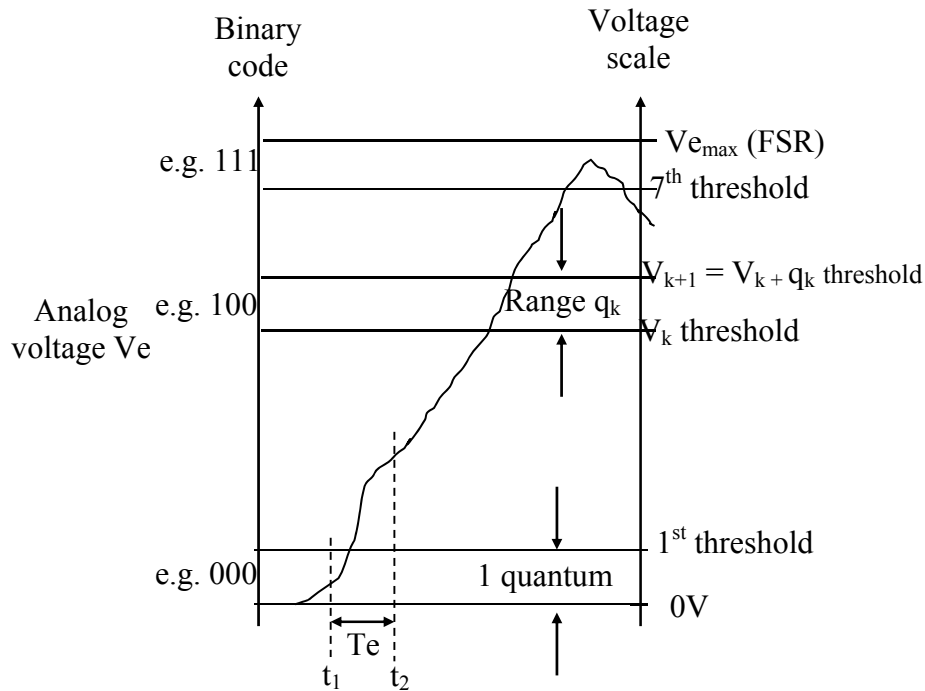

Figure 13: Illustration of the problem associated with voltage \rightarrow code ($N_0 = 3$ bits) correspondence
• **Quantization error:** All voltages in the same range have the same code attributed (see Figure 13). Thus with only the code, we are unable to find the exact value of the corresponding voltage. If the sampling rate is very high (theoretically infinite), then the code is usually attributed a value from the middle of the range q_k . Quantization error, in the worst case scenario, is then $\pm q/2$.